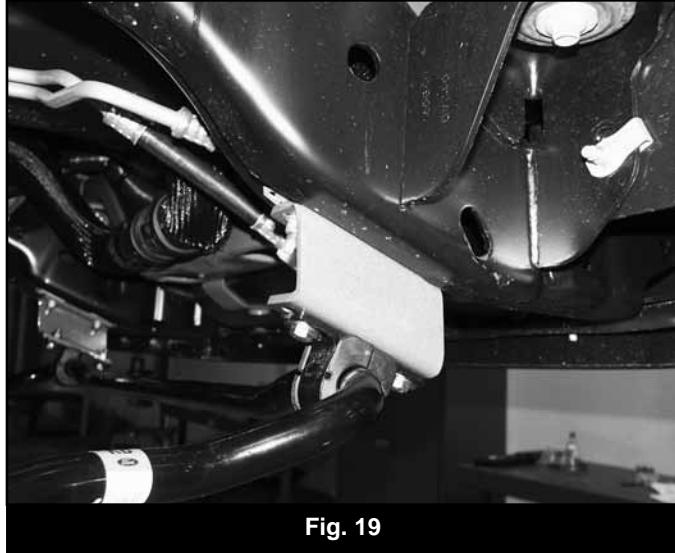

Fig. 19
48. Attach the sway bar to the new drop brackets in the correct orientation with the 3/8" hardware from bolt pack #422. Torque hardware to 30 ft-lbs (Fig 19).